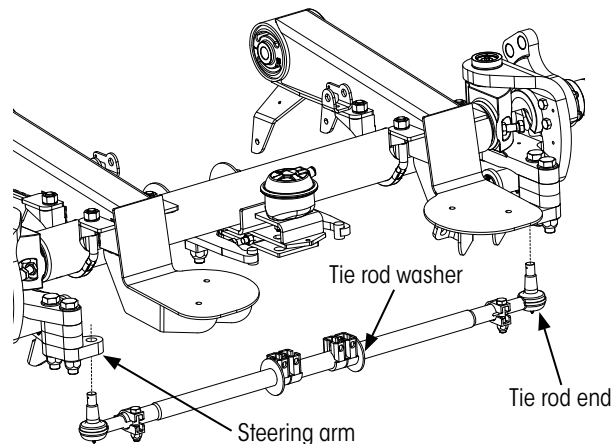

Figure 12: Remove/attach tie rod assembly
2. If replacing the tie rod assembly (Figure 12), go to **REATTACH TIE ROD**.
2. **Insert** the tie rod end into the steering arm (Figure 12). If applicable, **repeat** for the opposite end.